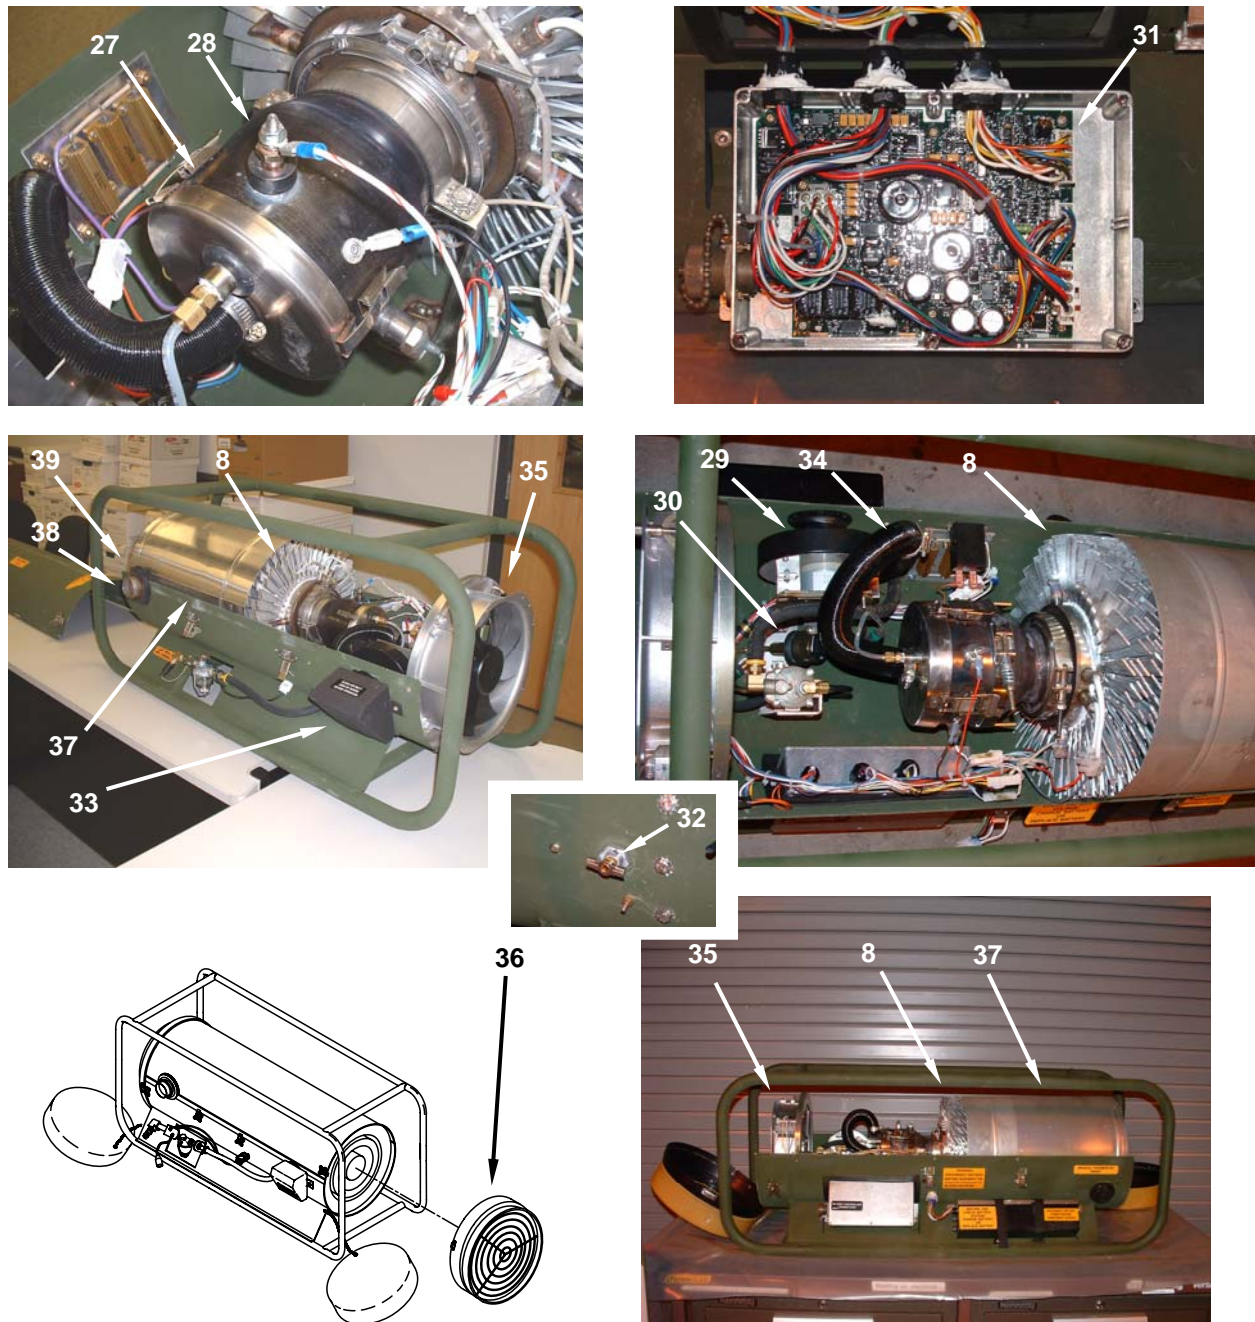

Figure 4. MTH60SP Internal Components.
The burner assembly (**Figure 4, Item 27**) consists of a vaporization type burner. The burner assembly uses a glow plug (**Figure 4, Item 28**) for starting and requires no power other than the combustion blower (**Figure 4, Item 29**) and the fuel pump (**Figure 4, Item 30**) to operate. During starting, the main control board (**Figure 4, Item 31**) directs 11.5 V DC from the battery to the glow plug to initiate startup. An external fuel drain (**Figure 4, Item 32**) is also provided under the float assembly to facilitate draining the fuel system.
The main control board (**Figure 4, Item 31**) uses information from the heater's sensors and the tent control assembly to determine the ideal firing rate. The air/fuel ratio is adjusted as needed to maintain the ideal firing rate.
The main control board (**Figure 4, Item 31**) is housed on a printed circuit board and located on the lower housing next to the battery compartment and is clearly marked. The main control board manages the distribution of power throughout the MTH60SP. It includes temperature and tilt sensors and the control circuit. The control circuit analyzes information from the sensors to maintain the optimum firing rate for the heater. To maintain the firing rate, it controls the rates of fuel flow and air flow, and continuously monitors the in-tent control assembly settings to verify that the desired settings are reached.
The combustion air blower assembly (**Figure 4, Item 29**) integrates a 12-volt direct current (DC) combustion air fan located in the lower heater housing. The combustion air blower draws air through the combustion air inlet (**Figure 4, Item 33**) and passes it through a flexible hose (**Figure 4, Item 34**) to the burner assembly (**Figure 4, Item 27**).
A heated air blower assembly (**Figure 4, Item 35**) is mounted behind the duct adapter (**Figure 4, Item 36**). It features a 12-volt DC fan in series at the inlet end of the heater. The fan moves approximately 500 cubic feet per minute (CFM) of heated, breathable air when operating.
The heated air blower assembly (**Figure 4, Item 35**) forces fresh air or air removed from the tent through the heater. This air passes across the TEG and the heat exchanger, where it absorbs heat and is directed into the tent.
The fuel pump (**Figure 4, Item 30**) is controlled by frequency pulses from the heater control assembly and is responsible for supplying fuel to the burner assembly.
The heat exchanger (**Figure 4, Item 37**) transfers heat from hot gases produced by the burner to the heated (breathable) air. The heated air runs over the outside of the heat exchanger to collect the heat. This heated (breathable) air is then used to heat the tent. The heat exchanger is sandwiched between the upper housing assembly and the lower housing assembly. The heat exchanger provides an outlet and mounting flange for the combustion exhaust pipe (**Figure 4, Item 38**) and an O-ring seal and gasket (**Figure 4, Item 39**). The hot combustion gases inside the heat exchanger are exhausted outside the enclosure through the combustion exhaust pipe.
The thermoelectric generator (TEG) (**Figure 4, Item 8**) provides electrical power to operate the heater system and recharge the battery. Once the TEG is operating at full power, it supplies enough energy to operate the heater assembly and maintain a battery charging voltage of 14.5 volts. When the battery pack has been fully charged, the extra energy the TEG creates is converted into heat and used to heat the shelter.